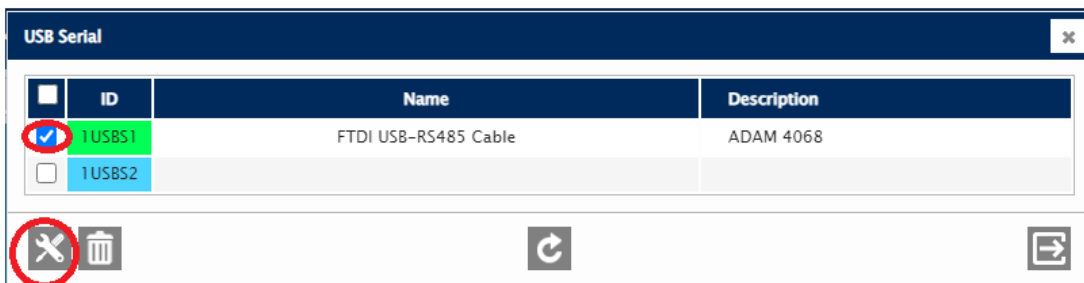

Figure 6: Devices – USB Serial screen
- (f) For N+1 systems only: select **Devices ► USB Serial** from the dropdown menu along the top of the screen. The menu in Figure 6 will appear.